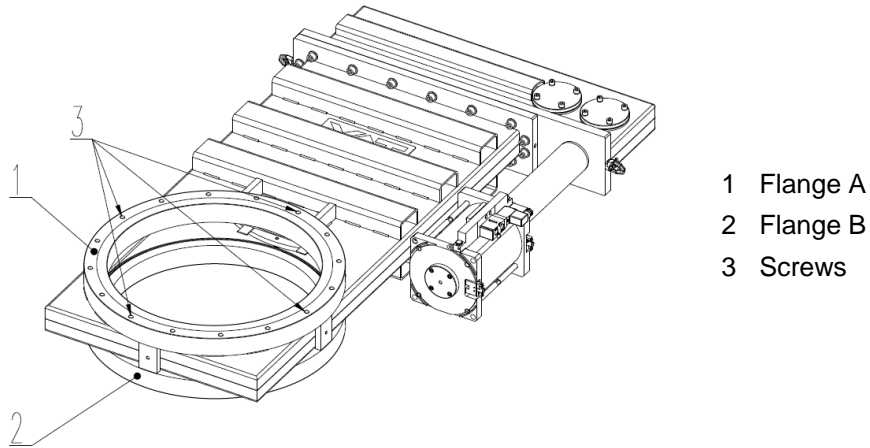

Figure 4-2
2. Clean sealing surfaces and seals of both flanges; see (1) and (2) according to «Figure 4-2» on page 10.
4. Mount the four screws (3) according to «Figure 4-2» on page 10, evenly in crosswise order until the seal touches the sealing surface.